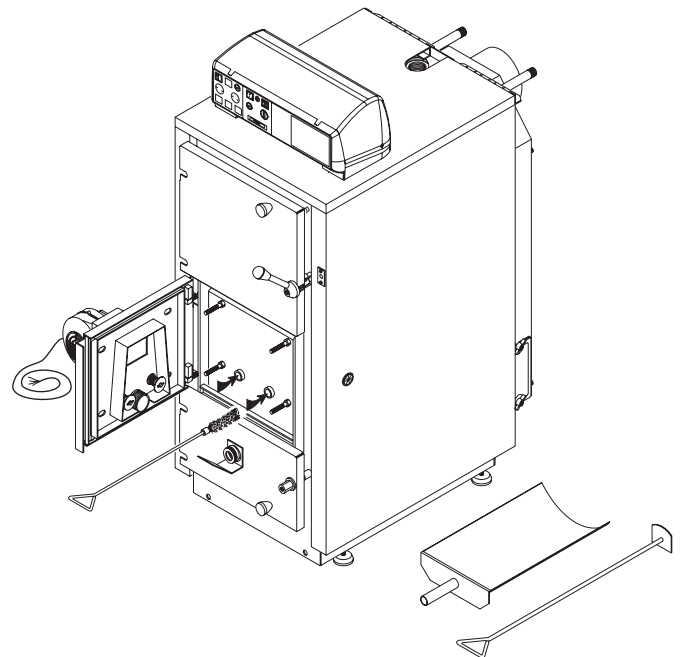

fig. 50
2) Check that the two holes for the secondary air, placed in the front part of the main stone, just in front of the two adjustment screws, are not obstructed; if they are, pass a **soft brush** in both the holes, as shown in fig. 50.
Remove the central wall (fig. 50) where the air adjustments are placed and clean the inner space carefully from tarry residues, dust and wood flakes which have entered through the primary air holes. Clean the secondary air passages carefully with a **soft brush**.